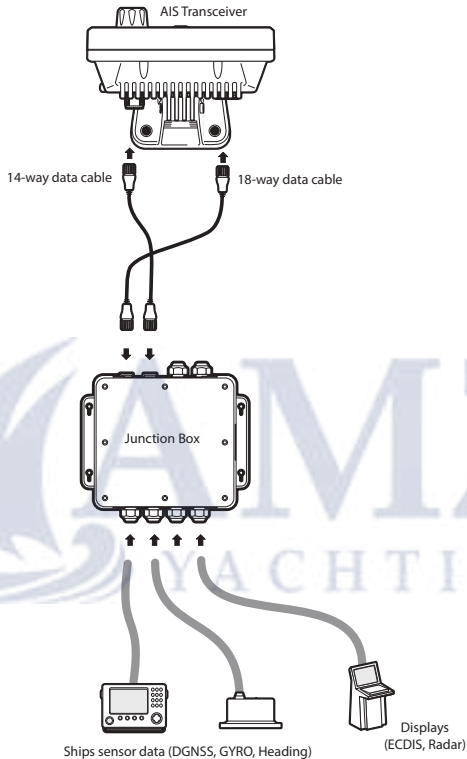

Figure 35 Connecting external equipment
- Figure 35. shows an example of how external equipment could be connected through the junction box accessory.